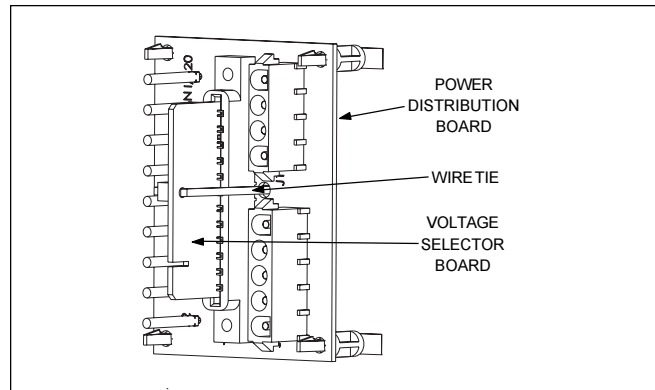

Figure 20. Power Distribution Board With Voltage Selector Board Installed for 230 VAC
2. Cut the plastic wire tie that is holding the voltage selector board in place and discard the wire tie. Unplug the voltage selector board from the receptacle (see Figure 20).